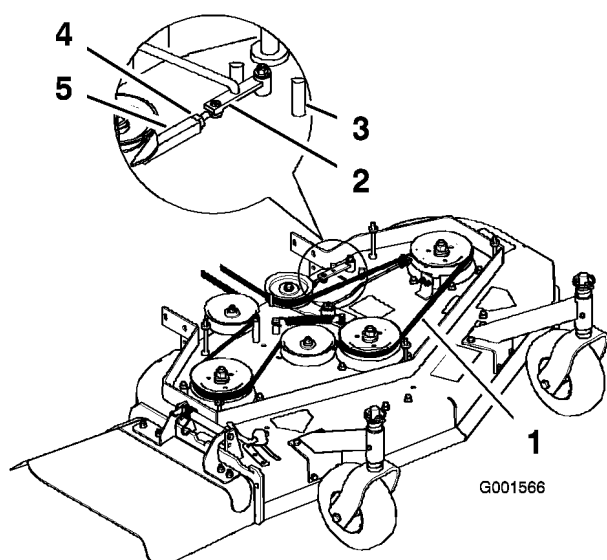

Figure 48
3. Loosen the locknut on the turnbuckle (Figure 48).
4. Rotate the turnbuckle toward the rear of the mower to increase the tension on the belt. Rotate the turnbuckle toward the front of the mower to decrease the tension on the belt (Figure 48).